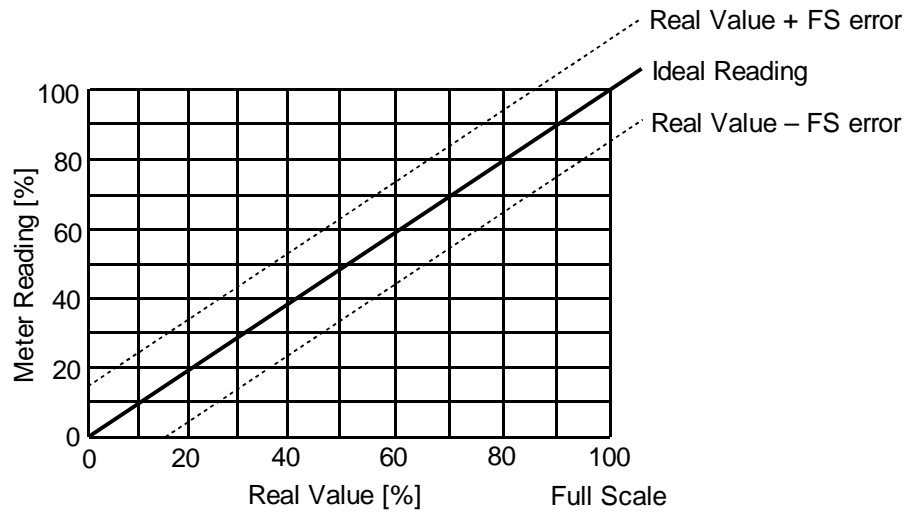

Fig. 1 Meter Reading when specified full scale error
**Fig. 1** shows a meter reading when the error of the meter is specified as percents **of full scale**. The meter reading will be between the dotted lines.